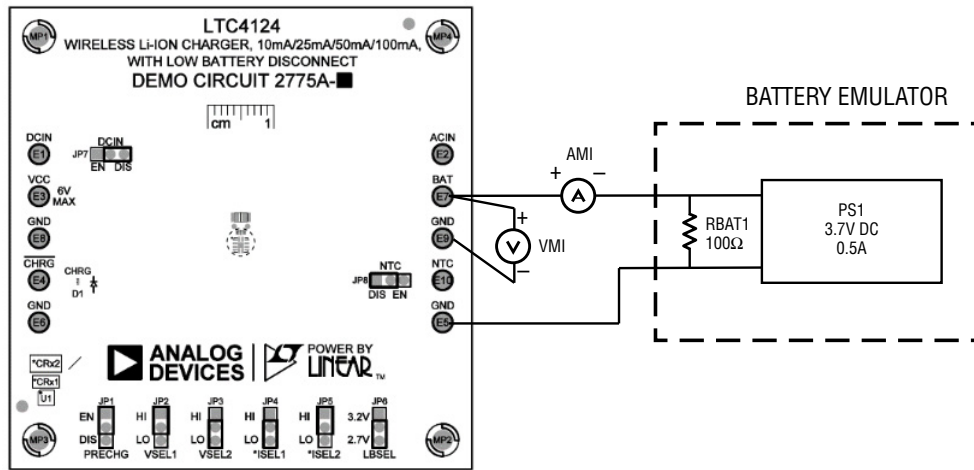
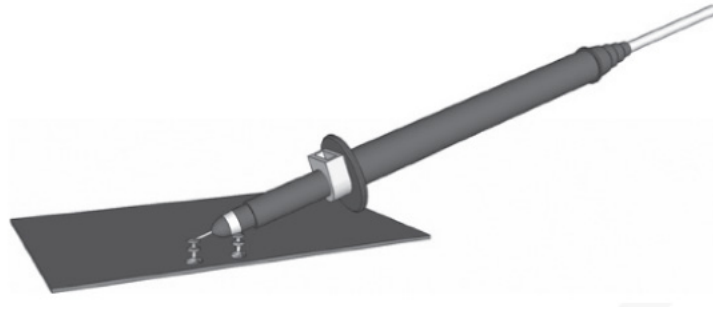

Figure 4. DC2775A-B Top
Figure 7. Measuring Input or Output Ripple
Refer to Figure 4 to Figure 7 for the proper measurement equipment setup, DC2775A-B mounting on DC2771A-B, and follow the procedure below:
3. Connect a voltage source PS1 and a 100 Ω resistor RBAT1 between the BAT and GND turrets of DC2775A-B, respectively (Figure 4). PS1 and RBAT1 make up the battery emulator. Typical power supplies cannot sink current. By adding a resistor across the power supply inputs that draws more current than the maximum battery charging current, the power supply only sources current even when the battery charge current is at its maximum value.
6. DC2771A-B.D1 LED should be turned on. DC2775A-B.D1 LED should start blinking intermittently. AM1 should be reading 25mA. If the AM1 meter reads much less than 25mA, read VM1 and check whether LTC4124 is in constant current mode (Figure 4).